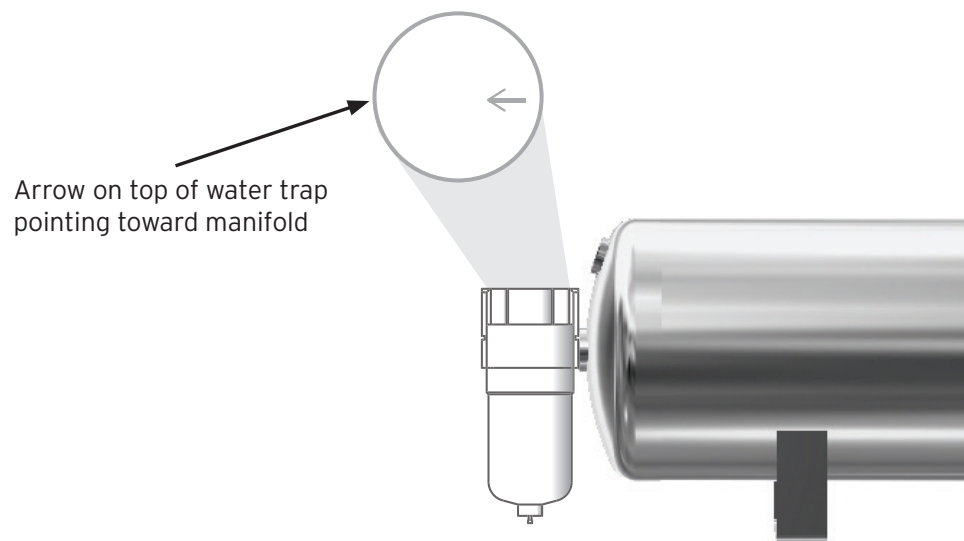

Fig. 11
3. The arrow on the water trap indicates flow direction and must point toward the manifold (Fig. 11).